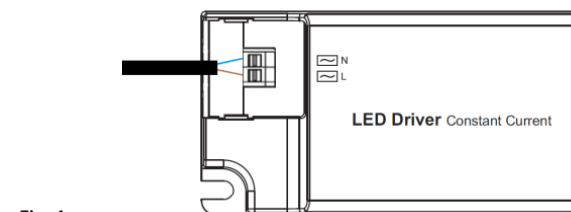

Fig. 1
- Connect the luminaire to the mains supply ensuring the correct polarity is observed (see Fig. 1): L – Live (brown) and N – Neutral (blue)